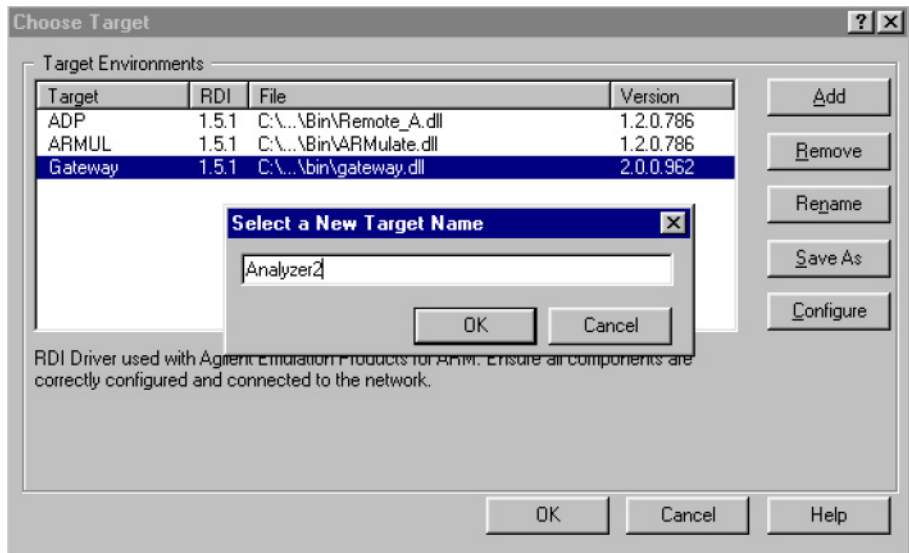

Figure 2-17 Saving a named target configuration
- c. Enter the new name of the target configuration, as shown in Figure 2-17.